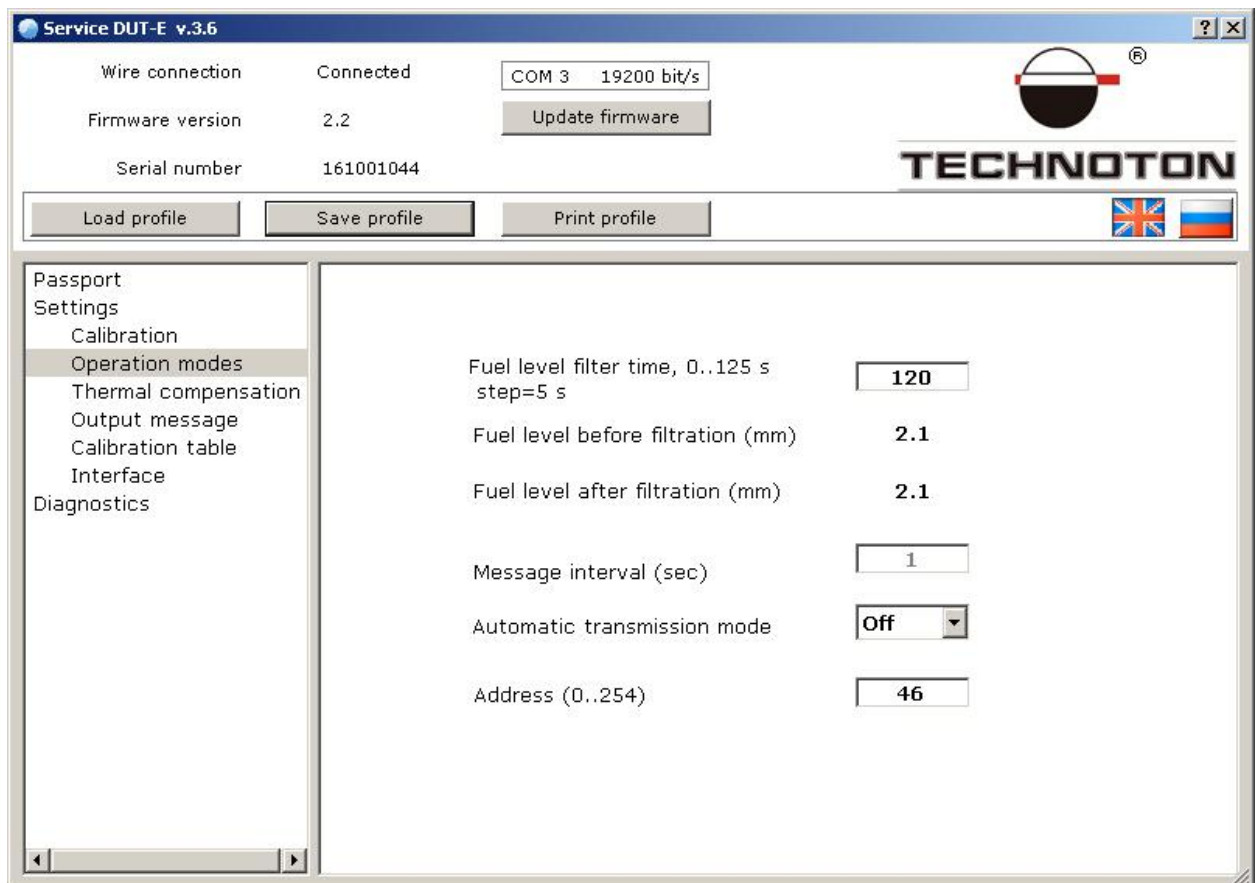

Fig. 14. Window of the software "Service DUT-E"
- Data output mode (default setting HEX) (See Figure 14).
For the DUT-E 485 the setting of the unique address for each sensor in the network RS 485 is also available (See Figure 14).